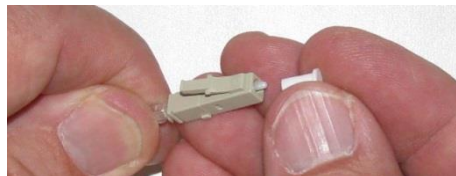

Figure 23
- 6.4. Place the dust protection cap over the ferrule (figure 23).